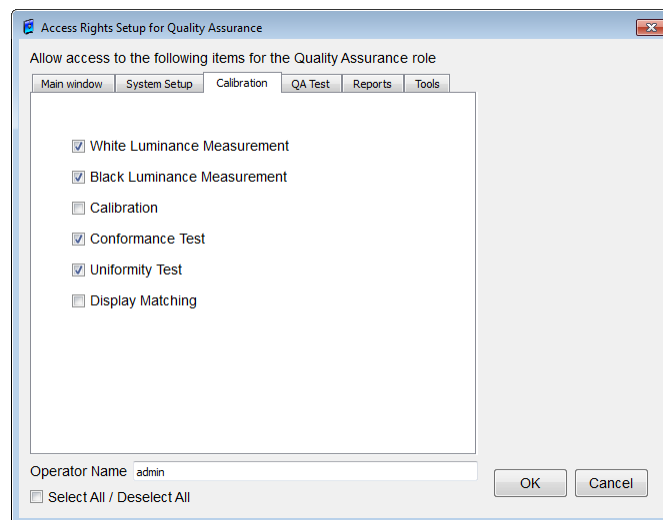

Figure 109: Access Rights Setup for Quality Assurance dialog box (Calibration)
- **Calibration tab (Figure 109)**